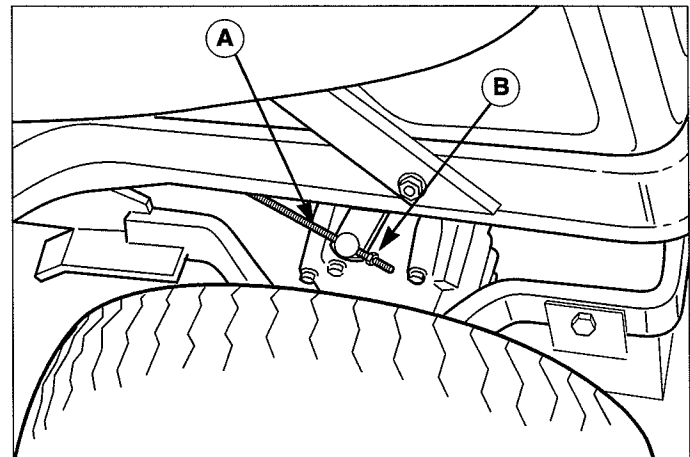

Figure 25. Brake Adjustment
2. Release the parking brake and move the brake rod back and forth (A, Figure 25). The rod should have approximately 1/8" of back and forth travel.
3. Adjust the adjustment nut (B, Figure 25) until correct travel is achieved.